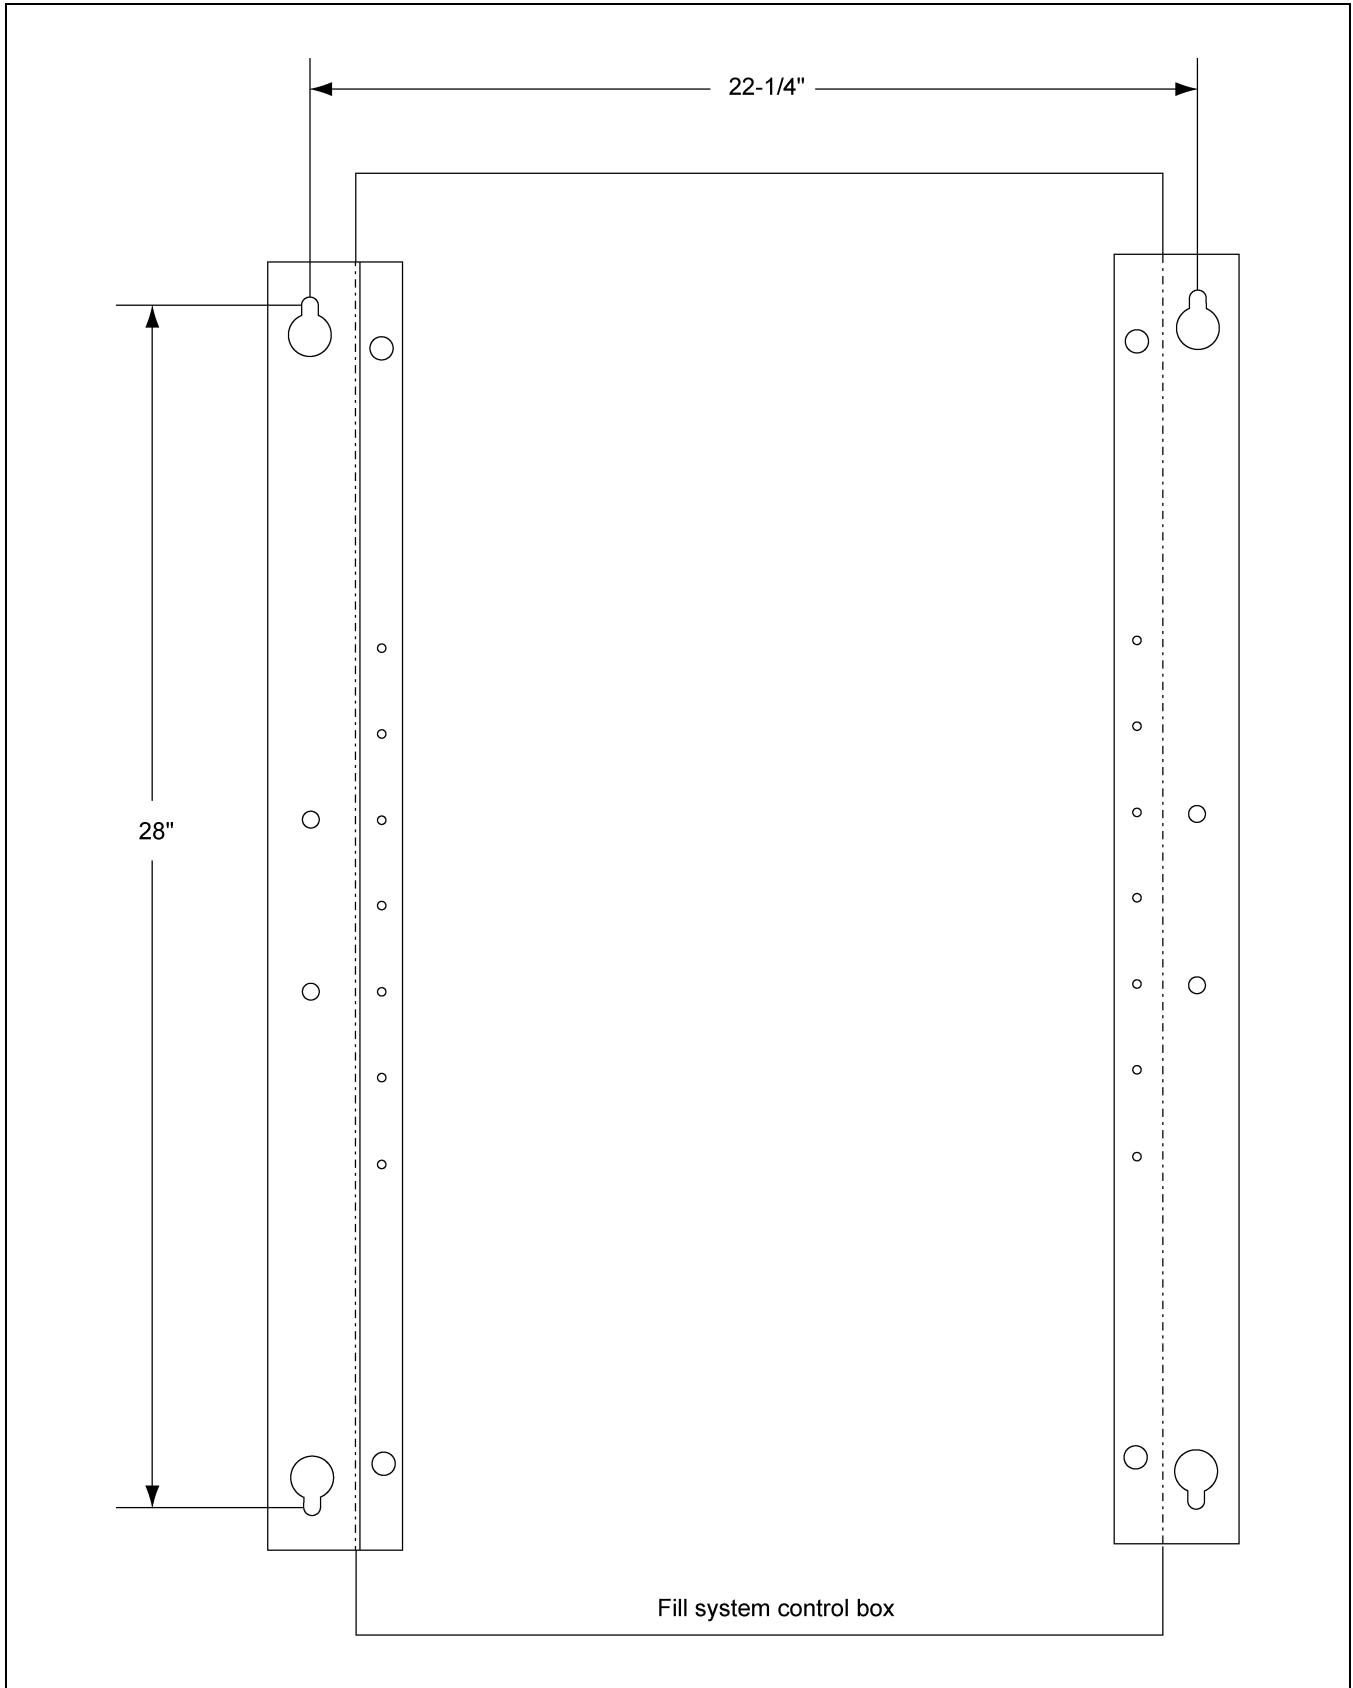

Figure 3E Illustration of the bolt pattern for the fill system control box.
3. Use the pattern in Figure 3E on Page 20 to drill holes for the fill system control box, if the box is to be mounted to the side of the bin.